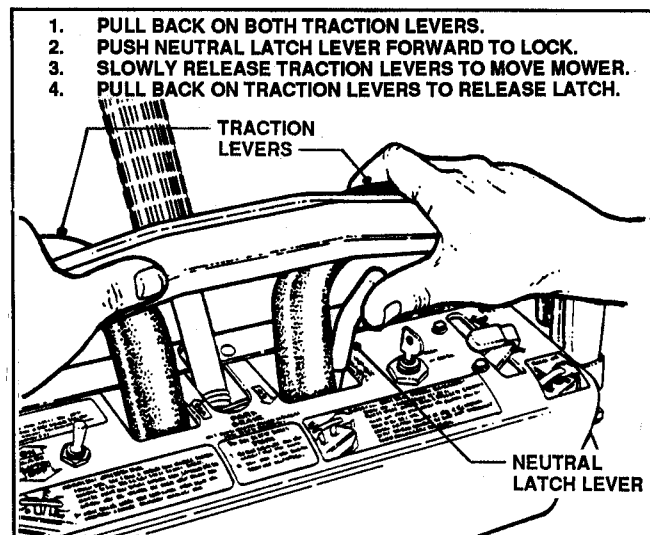

FIGURE 13
2. Using thumb, push NEUTRAL LATCH LEVER forward until it locks. See Figure 13.